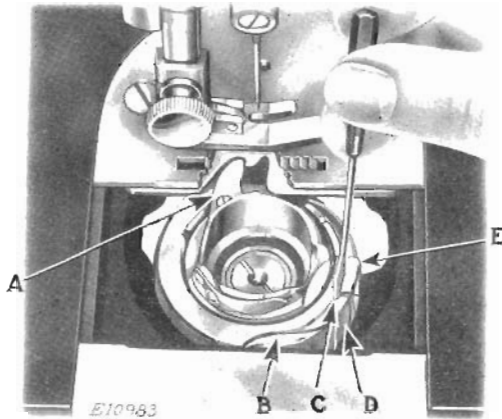
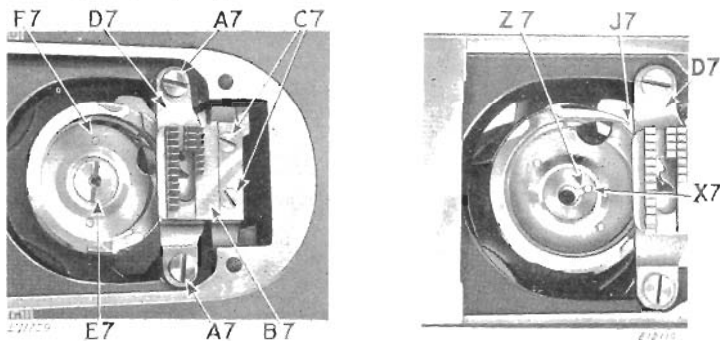

FIG. 30. BOBBIN CASE IN POSITION
FIG. 31. To REMOVE ROTATING HOOK FIG. 31A. To REMOVE ROTATING HOOK
To remove the rotating hook bobbin case it is not necessary to remove the throat plate, although for purposes of illustration, throat plate and feed dog are shown broken away in Fig. 30.
Remove rotating hook bobbin from bobbin case. Rotate balance wheel until end of rotating hook bobbin case retaining ring (E) is toward front of machine as shown in Fig. 30. Insert the blade of a small screw-driver into slot (C) between the ring and edge of the rotating hook bobbin case retaining ring spring as shown in Fig. 30. With a downward pressure turn the screw driver one half turn to the right so that the screw driver will drop into
To replace, first put bobbin case in position with rotating hook bobbin case finger (A) in the opening or notch in rotating hook bobbin case position plate under the feed dog as shown in Fig. 30. Turn bobbin case back and forth slightly to make sure it is properly seated, then place hook ring (E) in position with cut-out (B) opposite spring (D). Press the ring into place and turn it in the direction of hook rotation until the spring locks it in position. Replace bobbin.
Move the slide plate to the left, then take out the two throat plate screws and remove throat plate. Remove the two feed dog screws (C7, Fig. 31) and lift off feed dog (B7). When replacing feed dog, insert and tighten feed dog screws (C7).
Move the slide plate to the left and remove throat plate. Remove feed dog as instructed at bottom of preceding page. Remove rotating hook bobbin case position plate screws (A7, Fig. 31) and rotating hook bobbin case position plate (D7). When replacing, make sure that the position plate (D7) is placed to obtain full thread space between rear side (the side farthest from the operator) of rotating hook bobbin case finger (A, Fig. 30) and the adjacent side of the notch or opening in position plate. While tightening screws (A7) apply pressure to the plate (D7) in a backward direction (away from the operator); also to the right, thus insuring that, when screws (A7) are fully tightened, full thread space is provided.
Move the slide plate to the left and remove throat plate. Remove rotating hook bobbin case as instructed on page 42. Remove rotating hook screw (E7, Fig. 31), uncovering rotating hook position pin (X7, Fig. 31A) at upper end of rotating hook shaft.
Rotate balance wheel to bring feed dog to its highest position, and to bring rotating hook point (J7) within $\frac{1}{16}$ inch from rotating hook bobbin case position plate (D7), as shown in Fig. 31A. The pin (X7) will then be in the position shown in Fig. 31A, and the rotating hook can easily be removed. While the removal of the throat plate is not necessary, it is suggested as a convenience when replacing rotating hook bobbin case finger (A, Fig. 30) in its notch in position plate.
To replace, reverse removal operations, keeping pin (X7) in the position shown in Fig. 31A, and making sure that slot (Z7, Figs. 31A and 37), in rotating hook, is in engagement with pin (X7); also that finger (A, Fig. 30) is in its opening or notch in position plate as shown in Fig. 30. Insert and tighten screw (E7) and replace bobbin case as instructed on the preceding page; also replace throat plate.
Were the position plate removed and the bobbin case left in the machine, the rotation of the balance wheel might move rotating hook bobbin case finger (A, Fig. 30) to where the needle could strike it, thus damaging the needle.